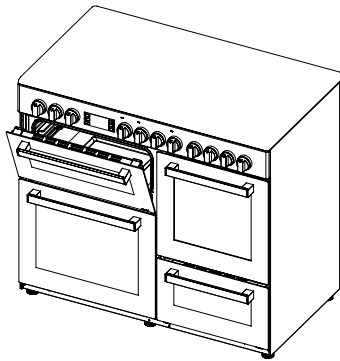

Figure 33
3. Place the safety panel under control panel by opening the oven front cover glass. (figure 33)